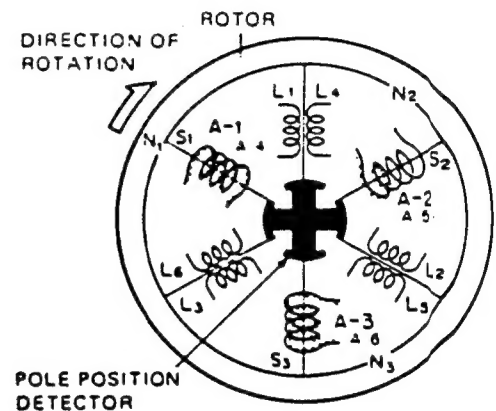

Fig. 1
3. Q109 in turn conducts and causes current to flow in the associated drive coil (A-1). The rotor moves in the direction shown by arrow in Fig. 1. The magnetic pole affixed to the rotor induces a voltage proportional to rotor movements, in the sensing coil (A-4).
Fig. 1 shows a simplified view of the drive and sense coils. With power applied and coupling between L1 and L4 high, Q109 causes current to flow through A-1. As a result, the rotor end of coil A-1 becomes a south pole (S1) and attracts N1. The rotor moves in the direction shown by arrow. Coupling factor between L2 and L5 increases and operation of Q110 causes current to flow in coil A-2. Pole S2 attracts pole N2 and rotor rotation continues. In the same manner, S3 attracts Pole N3. Continuation of this process causes the rotor to turn on a steady basis.